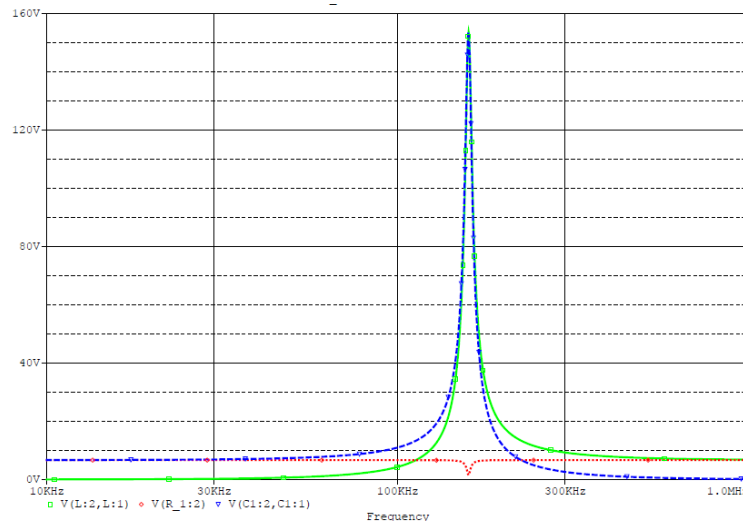

Figure 2. Simulation results for Circuit 1.
19. Run the simulation by clicking the tab. The simulation result will pop up, with the voltage as a function of frequency plot shown (Figure 2). The voltages plotted are for the markers, and is the magnitude of the voltage. *Print these simulation results. From the simulation results, determine the resonant frequency for this circuit.*